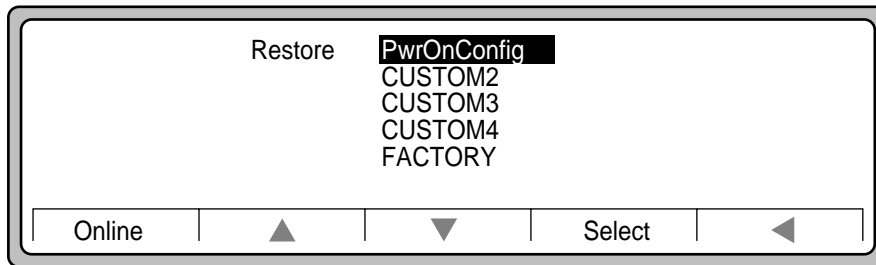

Figure 2-11 Custom restore and save menu settings
4. Use ► to obtain more settings options (Figure 2-11).